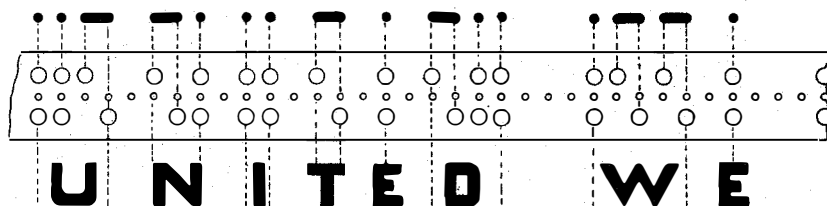

Figure 10. *Wheatstone code perforated tape.*
The signal elements (dots and dashes) appear in the tape (fig. 10) as double perforations. A center line of small perforations runs through the tape. Each signal element will have one signal perforation above the center line and one below. Two types of perforators are in use for preparing tape for the automatic transmitter.
a. Placing Tape in Auto Head. The tape is placed in the auto head to feed from right to left (fig. 9). It must pass across tape guide A which keeps it in alignment with tape-feed roller B and tape-feed spindle G. The tape passes through the auto head face up, in the position in which it is read (fig. 10). The *start* perforations are in, with respect to the auto head. The *stop* perforations are out, with respect to the auto-head.
11. INTRODUCTION (fig. 10).
(4) **SPACE BETWEEN WORDS.** Normally, spacing between words and groups is equal to seven dots. When the **stop** pin has ended a word, the **start** pin rises, finds no perforation; then the **stop** pin rises and finds no perforation. A second time the **start** pin rises and finds no perforation; the **stop** pin rises and finds no perforation. A third time the **start** pin rises and finds no perforation; the **stop** pin also rises and finds no perforation. At its fourth rise, the **start** pin passes through a perforation, and starts the signal of the next word. As illustrated in figure 10, this spacing between words is provided by three center-line holes with no perforations above or below them.